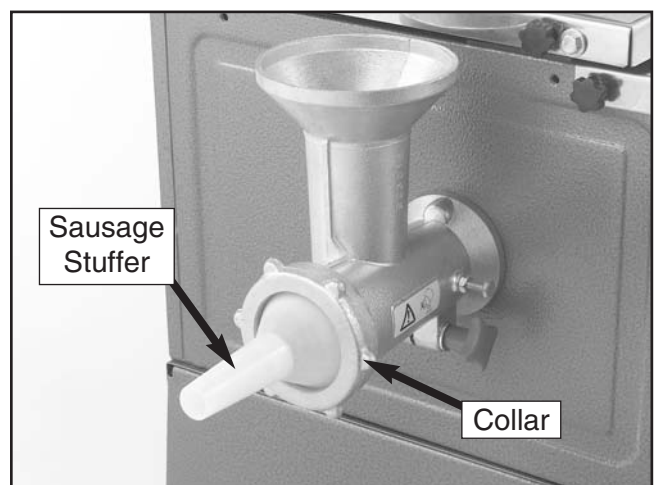

Figure 30. Sausage stuffer attachment.
3. Place the collar back on the housing as shown in **Figure 30**, and thread it tight so it is secured to the housing.